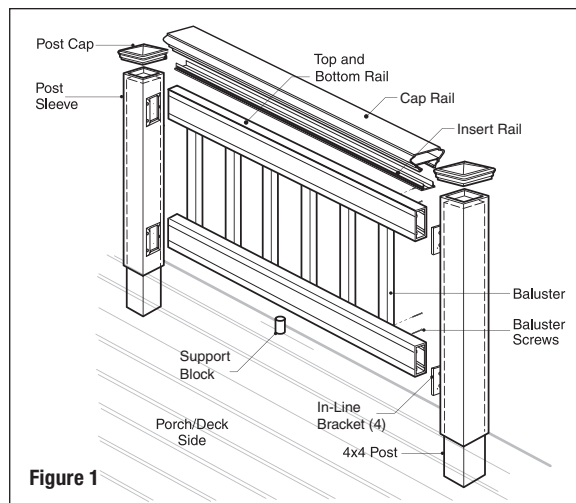

Figure 1
Step 6 Measure the distance between installed post sleeves to determine the length of the top and bottom rails (**Figure 1**). The distance between the post and first baluster should be less than 4" and equal on both ends (**Figure 4a and 4b**). Remove an additional 1/4" on both ends (1/2" overall) for the bracket to fit between the rail and post. Trim the top and bottom rails to length.
Step 9 A support block is needed at the center of each rail. Cut the support block to the proper height. Attach to the bottom of the lower rail (**refer to Figure 1**). Find the center of the rail and pre-drill using a 1/8" drill bit. Attach the support block connector using the included screw. Mark the location of the support block on the deck surface and attach the other support block connector to the deck using the included screw. Install the bottom rail between the posts. Using the brackets as a guide, pre-drill each screw hole using a 1/8" drill bit and attach each end to brackets using two 1" long screws. Tip: Use a driver extension bit to avoid marring the rail or post sleeve with the drill chuck.